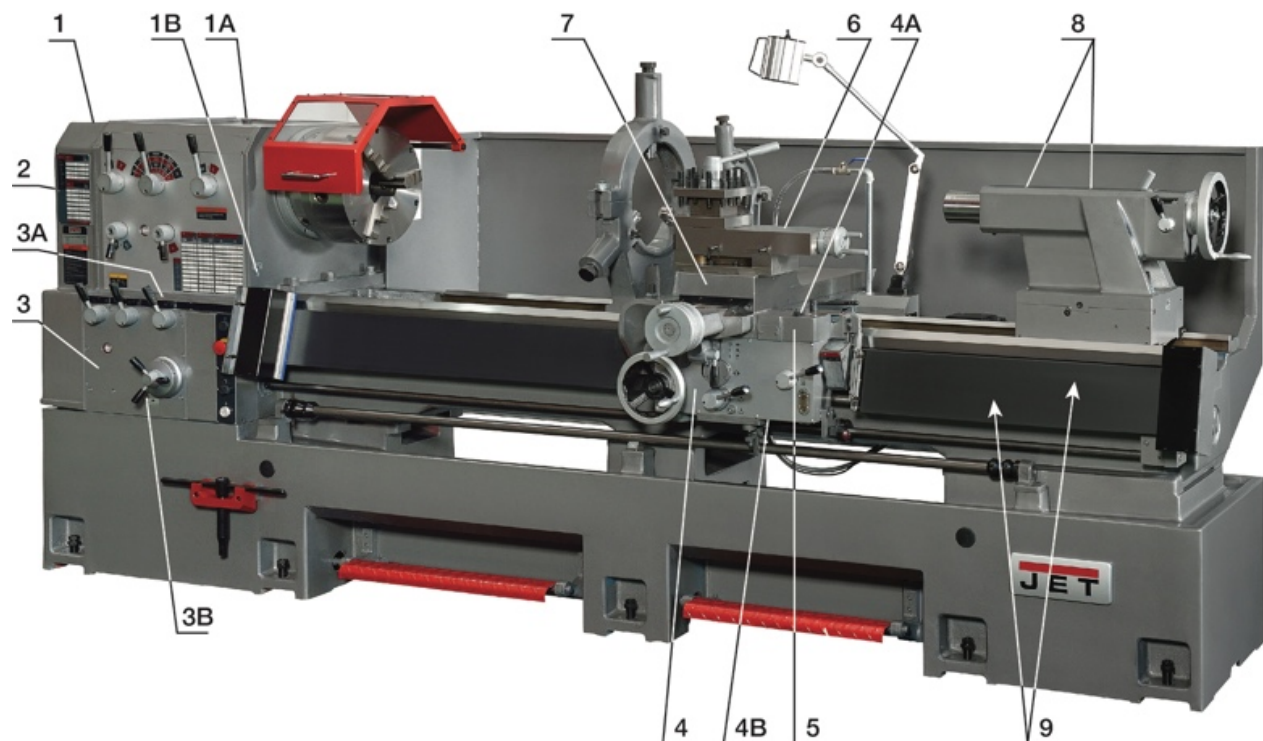

Figure 8-1
1. **Headstock** – The bearings of the headstock turn in an oil bath. Oil must reach the center line of oil level sight glass. Top off with Mobil DTE® Oil Heavy Medium. Fill at oil input hole on the left top side of headstock cover (1A, Figure 8-1). Drain oil by removing drain plug (1B, Figure 8-1). Check oil level regularly. Make the first oil change after one month of operation. Clean out any metal shavings. Then, change oil in the headstock every two months.
3. **Gearbox** - Oil must be up to center line of oil level sight glass. Remove the oil filling plug (3A, Figure 8-1). Top off with Mobil DTE® Oil Heavy Medium. Drain oil by removing drain plug (3B, Figure 8-1). Make the first oil change
4. **Apron** - Oil must be up to center line of oil level sight glass. Top off with Mobil DTE® Oil Heavy Medium. Fill by removing oil filling plug (4A, Figure 8-1). Drain oil by removing drain plug located on the bottom of the apron (4B, Figure 8-1). Make the first oil change after operating three months. Then, change oil annually.
5. **Carriage** - Lubricate ball oilers (5, Figure 8-1) once daily with Mobil DTE® Oil Heavy Medium.
6. **Compound Slide** - Lubricate ball oiler (6, Figure 8-1) once daily with Mobil DTE® Oil Heavy Medium.
7. **Longitudinal and Cross Slide** - Lubricate ball oilers (7, Figure 8-1) once daily with Mobil DTE® Oil Heavy Medium.
8. **Tailstock** - Lubricate two ball oilers (8, Figure 8-1) once daily with Mobil DTE® Oil Heavy Medium.
9. **Leadscrew/Feed Rod** - Lubricate ball oilers once daily (9, Figure 8-1) with Mobil DTE® Oil Heavy Medium.